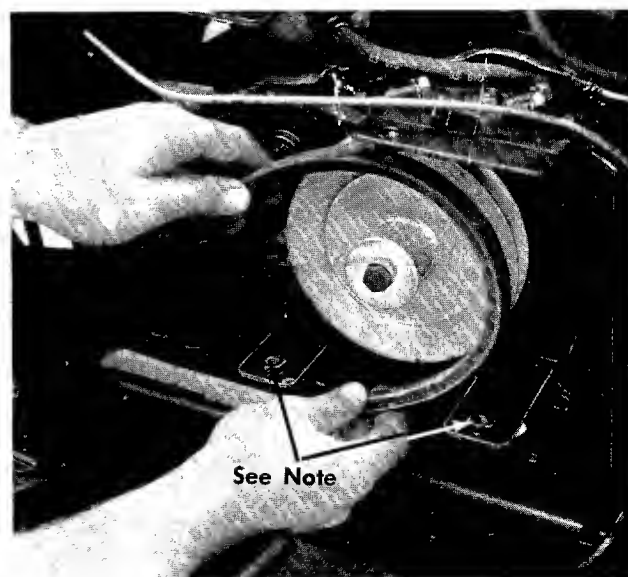

FIGURE 12. ATTACHING THE DECK BELT
- j. Attach the deck belt to the engine pulley. See figure 12.